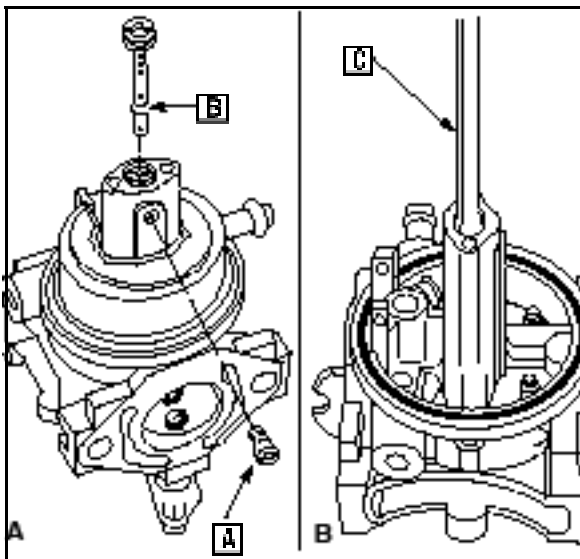

Fig. 87
12. Place emulsion tube (B) in fuel pick up first, then install fixed main jet ([A] Fig. 87).
13. Install the emulsion tube (B) with jet screwdriver #19062, (C) and install the fixed main jet ([A] Fig. 87).